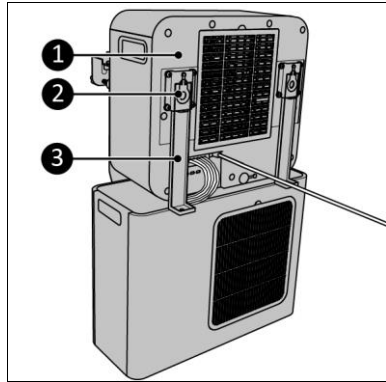

Figure 8
7. Attach the top caravan brackets (Figure 8, pos. 3) to the indoor unit (Figure 8, pos. 1) by using the rubber hooks (Figure 8, pos. 2).